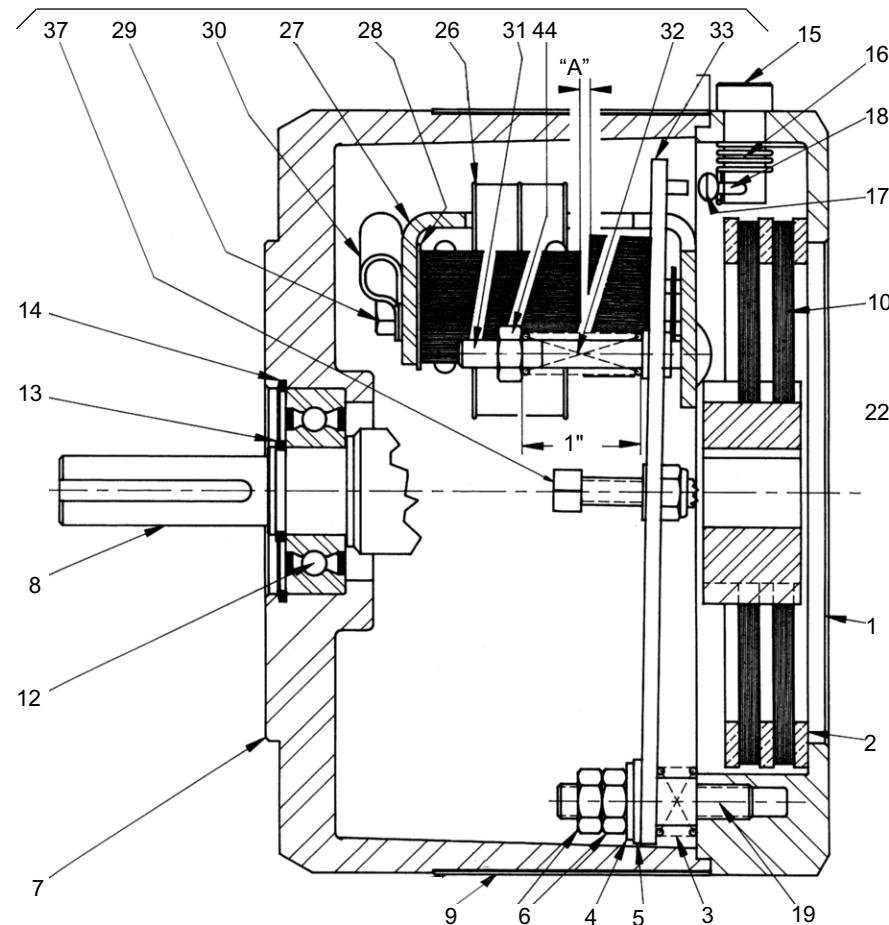

Figure 8
Numbers in parentheses refer to parts illustrated in Figures 8 thru 12.
(Refer to Figures 8 and 12.)
(Refer to Figures 8 and 12)
### MAGNET ASSEMBLY REPLACEMENT (Refer to Figures 8, 9 and 12)
### ARMATURE REPLACEMENT (Refer to Figures 8, 10 and 12)
4. Reassemble to magnet bracket (Ref. No. 27) using items (Ref. No. 31), (Ref. No. 32), and (Ref. No. 44). Reassemble operator assembly to brake bracket. Set magnet air gap "A" and set torque springs (Ref. No. 32) to 1" dimension shown in Figure 8.
(Refer to Figures 8, 11 and 12)